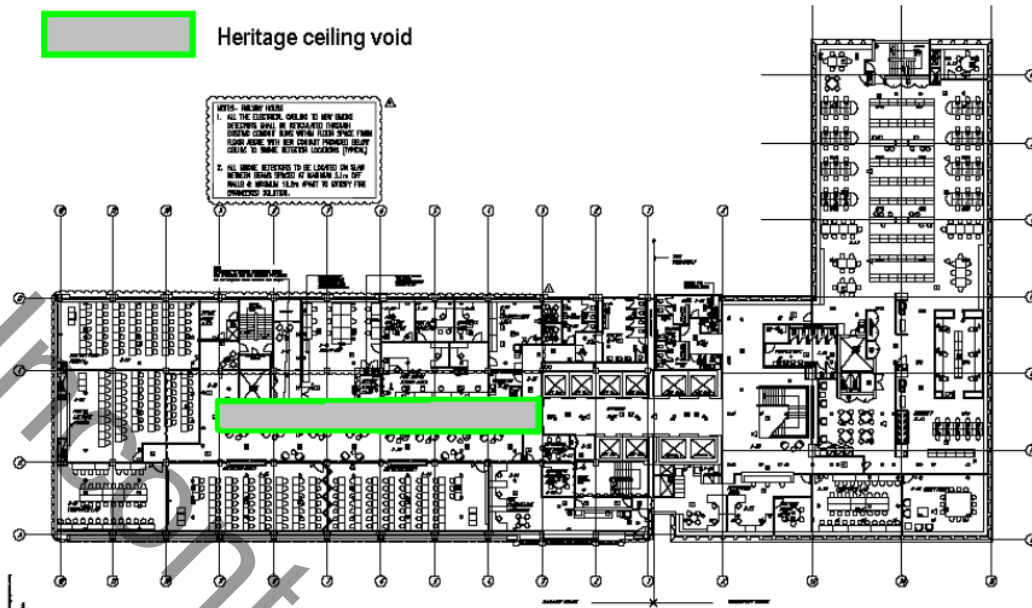

Figure 5 Mark-up of heritage ceiling void on typical floor
- c. The smoke detection within the void above the heritage ceiling in Railway House as illustrated in Figure 5 may comply with AS/NZS 1668.1-1998.
- c. The voids above the heritage ceiling on levels 1 to 11 in the Railway House as illustrated in Figure 5.